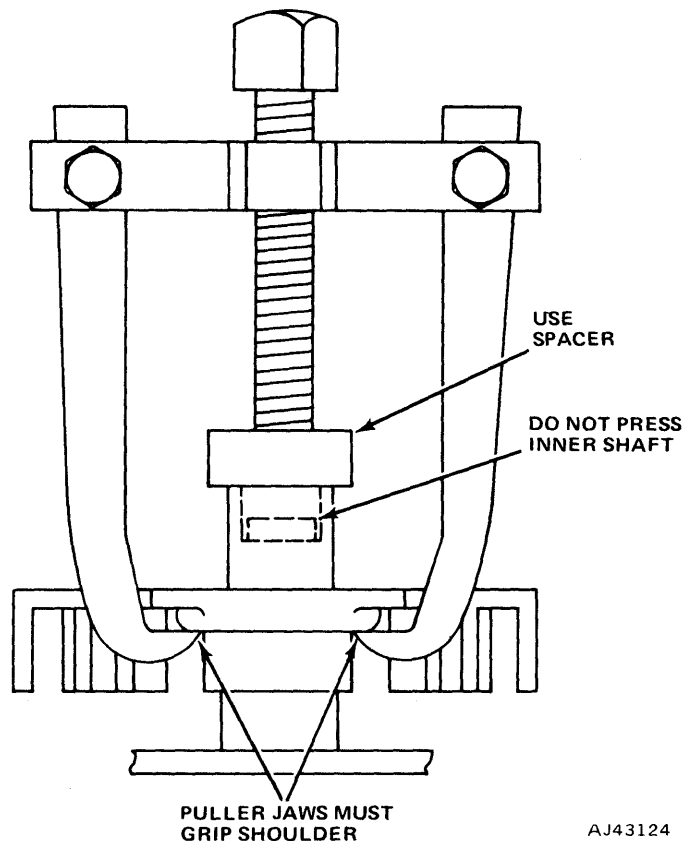

Fig. 3-56 Trigger Wheel Removal
(3) Remove trigger wheel using a small gear puller (fig. 3-56). Be sure the puller jaws grip the inner shoulder of the trigger wheel or the trigger wheel may be damaged during removal. Use a thick flat washer or nut as a spacer. Do not press against the small center shaft.